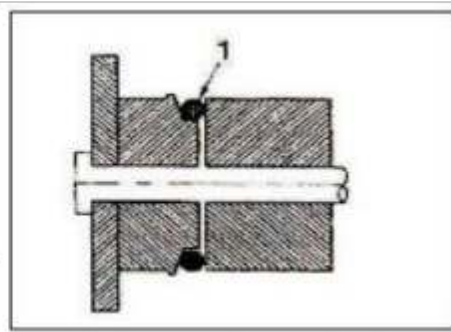

Fig 4-47
5. Roll the O-ring 1 into the O-ring groove (see Figure 4-47)